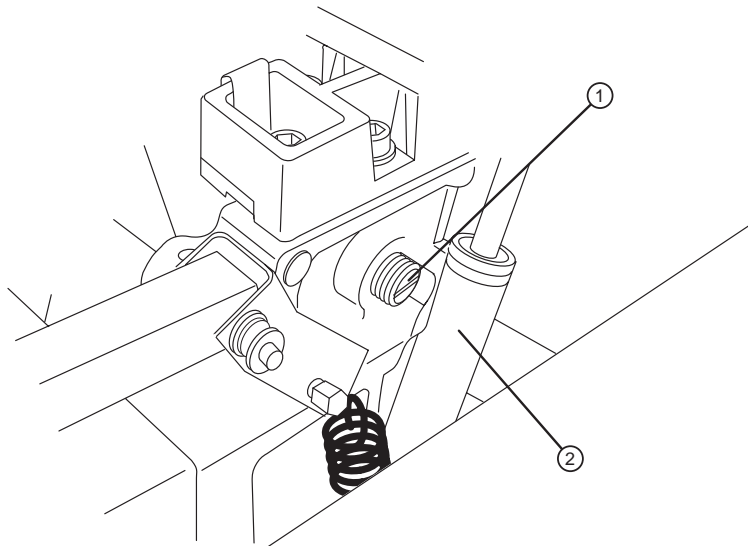

Figure 1-16 Installing the spring plunger.
①—Side door. ②—Thumb screw.
4. Install the spring plungers loosely, left and right. Refer to Figure 1-16. Thread the plungers with the ball facing in.